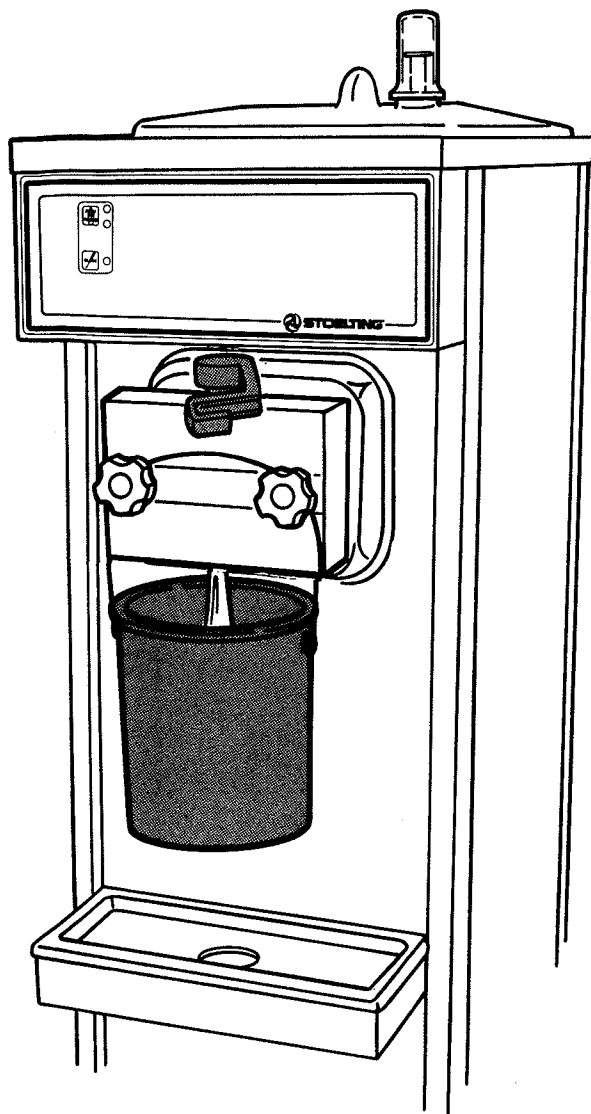

Figure 20. Draining Mix
- C. Drain the liquid mix by opening the spigot. A bucket or container should be placed under the spigot to catch the liquid mix (Fig. 20).